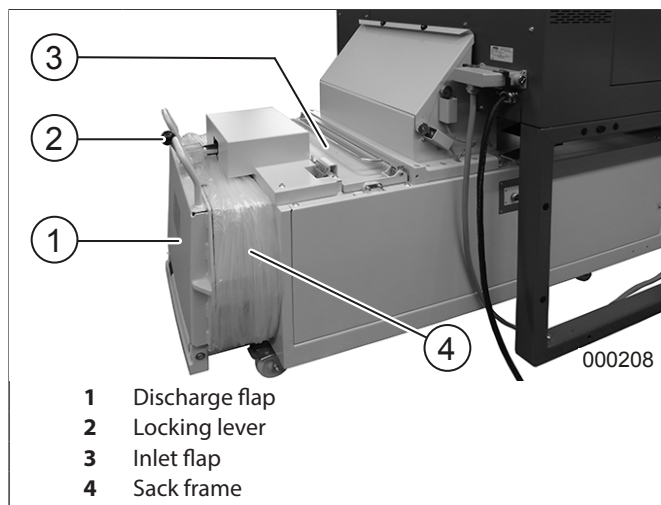

fig. 17 Opening the discharge flap
If the key is pressed and held (for at least 2 seconds), the baling ram travels a short distance in reverse and the locking lever (fig. 17/2) is advanced a short distance (pressure relief at the discharge flap).
The discharge flap (fig. 17/1) can now be opened. This is necessary when the baler is holding the bale in the compacted condition.
1. Open the inlet flap (fig. 17/3).
6. Close the inlet flap (fig. 17/3).
Opening the discharge flap (fig. 17/1):
1. Press and hold the "Open Discharge Flap" key (fig. 12/2) for at least 2 seconds. The baling ram travels a short distance in reverse, and the locking lever (fig. 17/2) travels a short distance forward in order to relieve pressure at the discharge flap.
2. Slightly lift the locking lever (35).
1. Close the inlet flap (fig. 17/3).
2. Open the discharge flap (fig. 17/1).
4. Remove the sack from the sack frame (fig. 17/4).
5. Close the discharge flap (fig. 17/1), as well as the inlet flap (fig. 17/3), if the shredder is to be used.